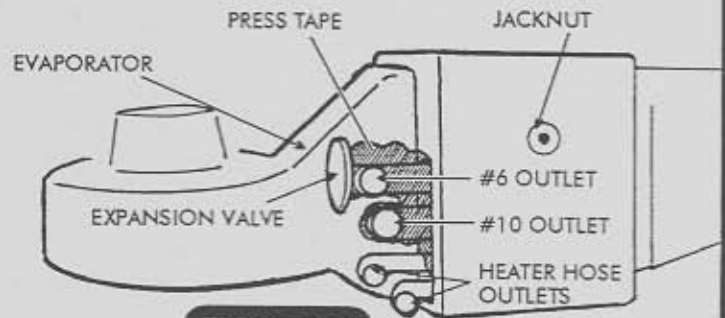

FIGURE 20
- ATTACH ALUMINUM HARDLINE TO EXPANSION VALVE AT THE EVAPORATOR AND WRAP WITH PRESS TAPE. SEE FIGURE 20.
- TIGHTEN THE #10 FITTING AT THE EVAPORATOR USING TWO (2) WRENCHES AND WRAP WITH PRESS TAPE.
- INSTALL THE 1/4" x 1" BOLT AND WASHER THROUGH THE FIREWALL COVER (HOLE "C") AND INTO THE JACKNUT ON THE EVAPORATOR CASE. SEE FIGURE 20, PG. 10.